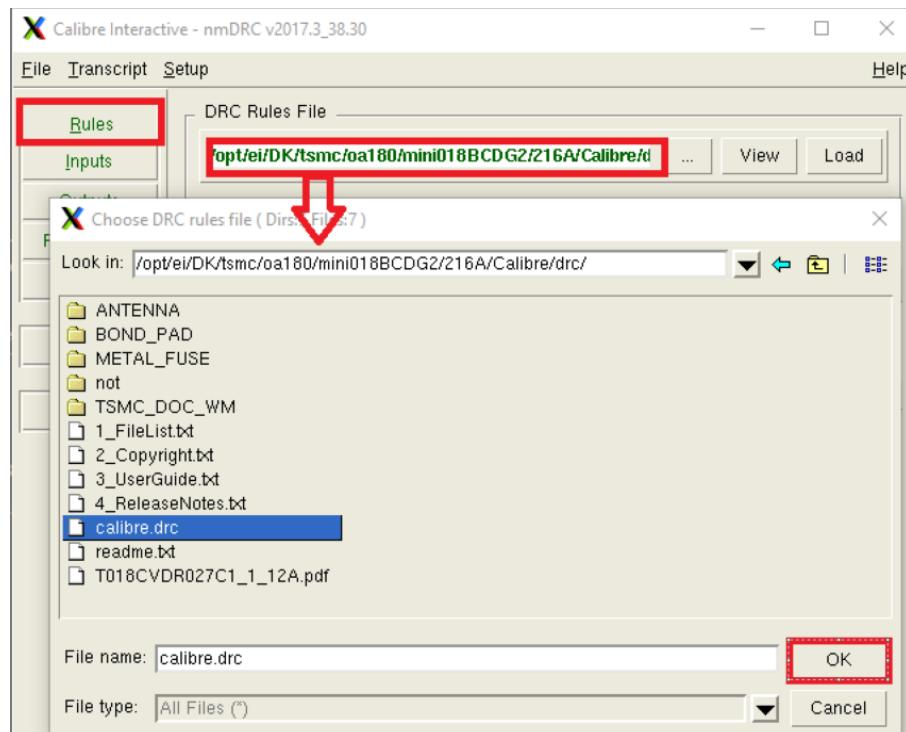
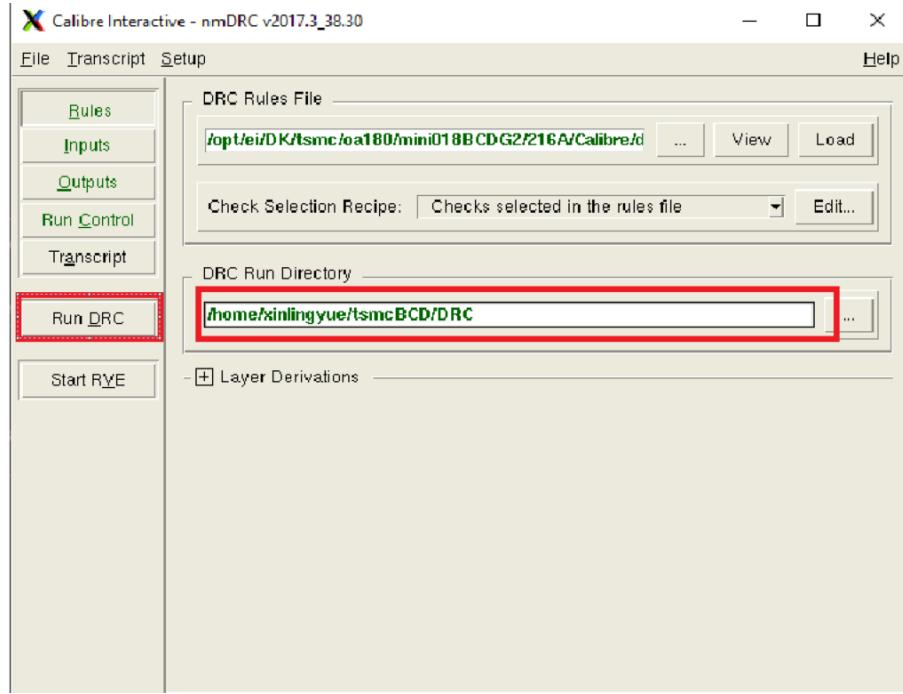

Figure 19: Setup DRC rule
Figure 20: Setup your DRC run directory
- Specify *DRC Rule File* and *DRC Run Directory* as shown in Fig. 19 and Fig. 20.